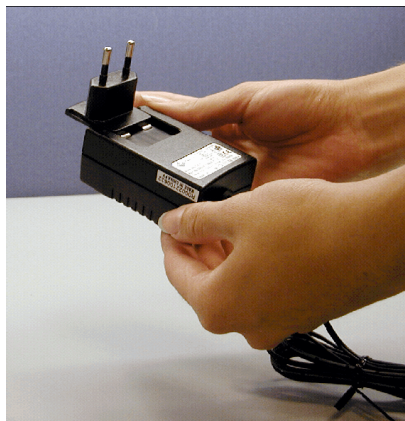

Figure 8. Snapping the New Plug Configuration
4. Push the new plug configuration down until it snaps into place, as displayed in Figure 8 on page 8.